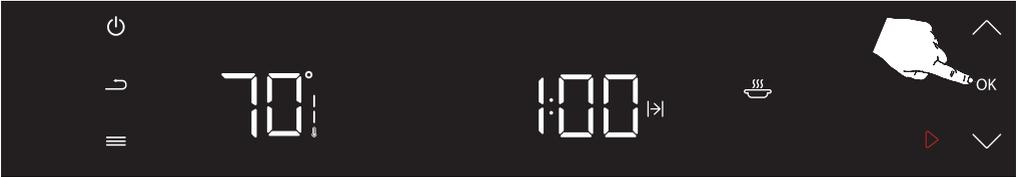

Figure 51
After all settings have been made, the keeping warm function is started by a long press on the confirmation button (OK). (see figure 51)